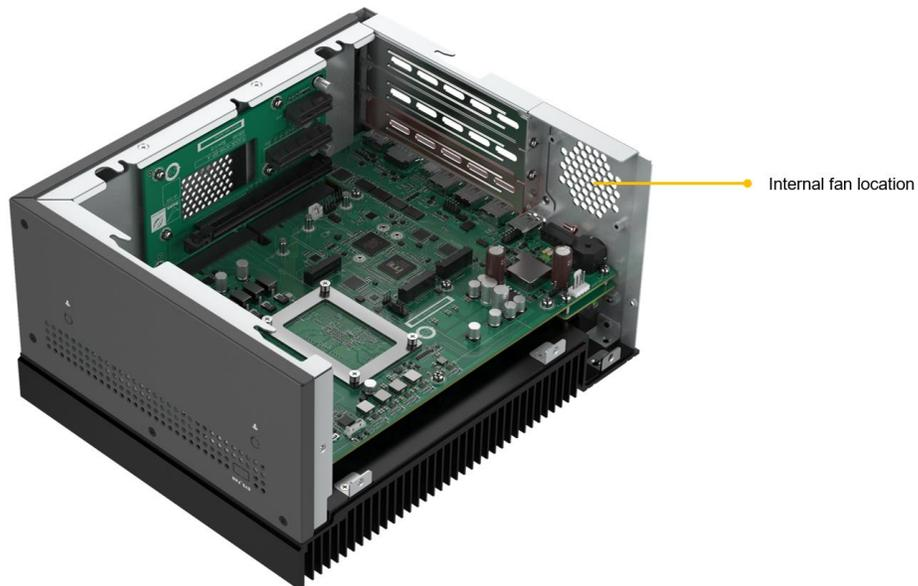

Figure 3-21: Internal fan location
Step 1: Re Locate the internal fan (Figure 3-21).
Step 4: Remove the four screws on each side of the TANK-8700 Series (**Figure 3-21**).